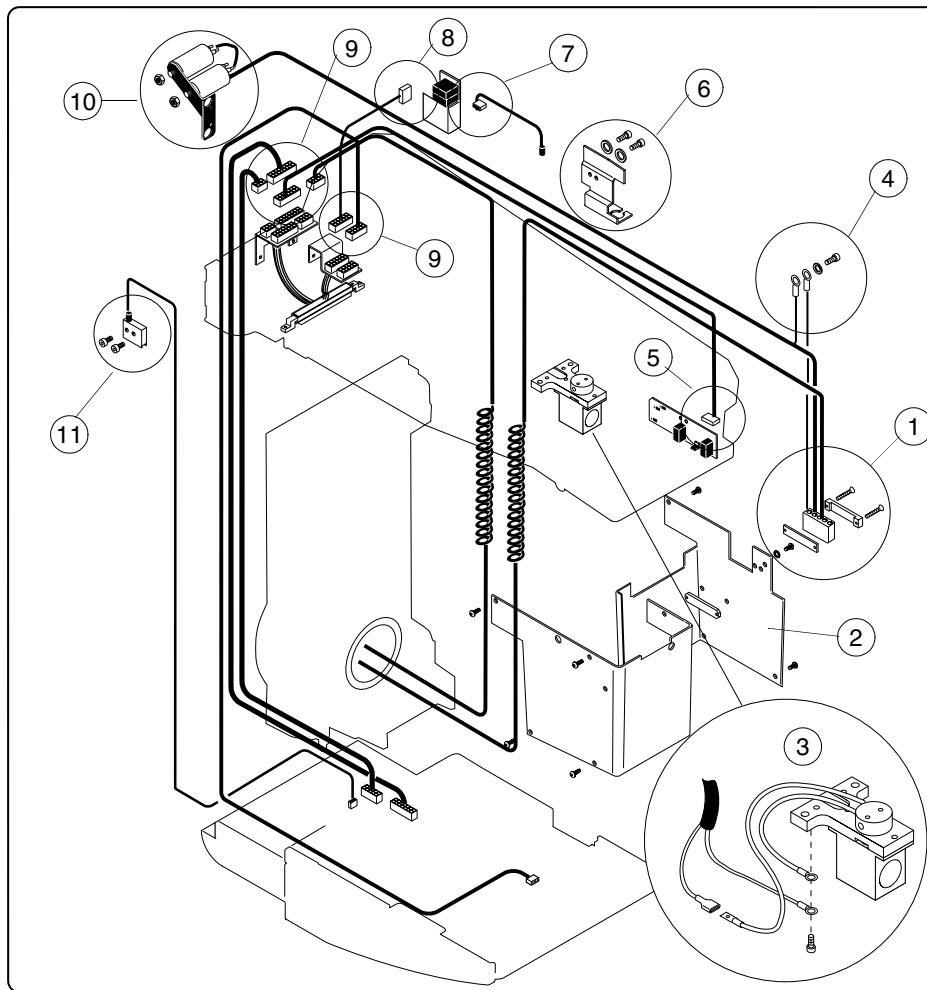

Figure H.16
- e) Unscrew the power connector bracket and remove the mains connector (Fig. H.16, 1) that connects to the power supply at the right side of the collimator shield (also called beam limiting device).
- f) Remove the collimator shield (Fig. H.16, 2). Disconnect the lightfield bulb wires (Fig. H.16, 3).
- g) Remove the ground connectors of the generator power spiral cable (Fig. H.16, 4) from the tubehead.
- h) Disconnect the generator to collimator cable from the COLLIMATOR PCB (Fig. H.16, 5).
- i) Remove the cable holding bracket (Fig. H.16, 6).
- j) Disconnect the tubehead temperature sensor cable from the MAG PCB (Fig. H.16, 7).
- k) Disconnect the generator to mag control cable from the MAG PCB (Fig. H.16, 8).
- l) Disconnect all the connectors from tubehead interface cable (Fig. H.16, 9).
- m) Remove the capacitors (Fig. H.16, 10).
Remove the mag down hall cable from the tubehead (Fig. H.16, 11)